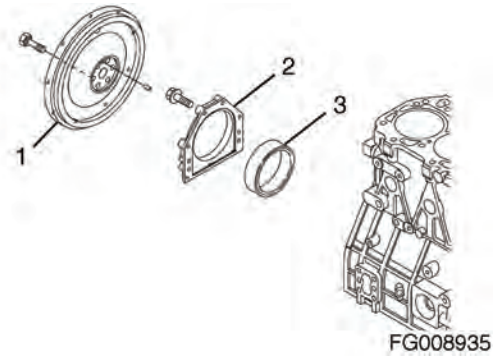

Figure 181
1. Remove the flywheel (1, Figure 181) from the crankshaft.
2. Remove the bolts from the rear oil seal assembly (2, 3, Figure 181). Remove the assembly from the engine.